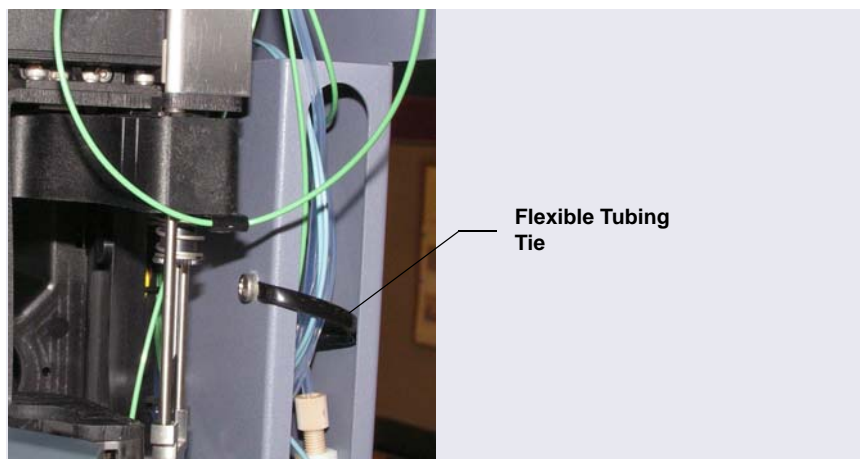

Figure 3-13. Flexible Tubing Tie in Dionex AS-AP Slotted Compartment
5. To ensure that the waste lines do not interfere with needle arm movement in the Dionex AS-AP, secure the excess tubing with the flexible tubing tie in the slotted compartment next to the needle (see Figure 3-13).